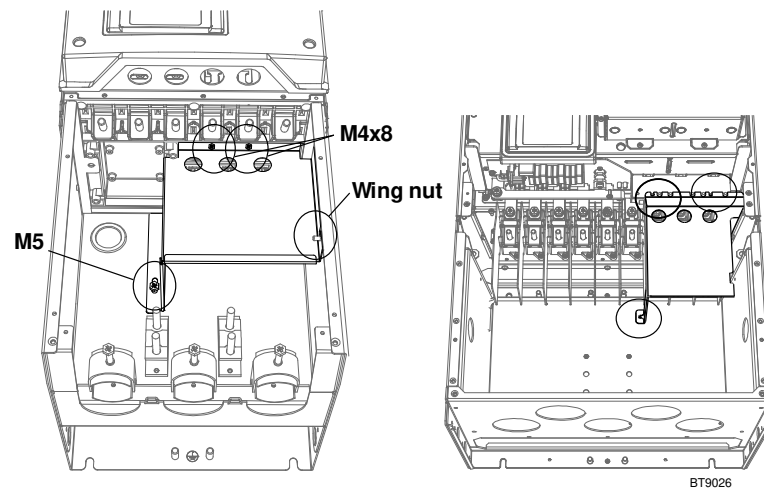

Figure 27: Removing EMC Shield Plate; Left: FS8, Right: FS9.
9. Re-mount the cable protection plate (Figure 27 [→ 33]) and the cover of the drive.